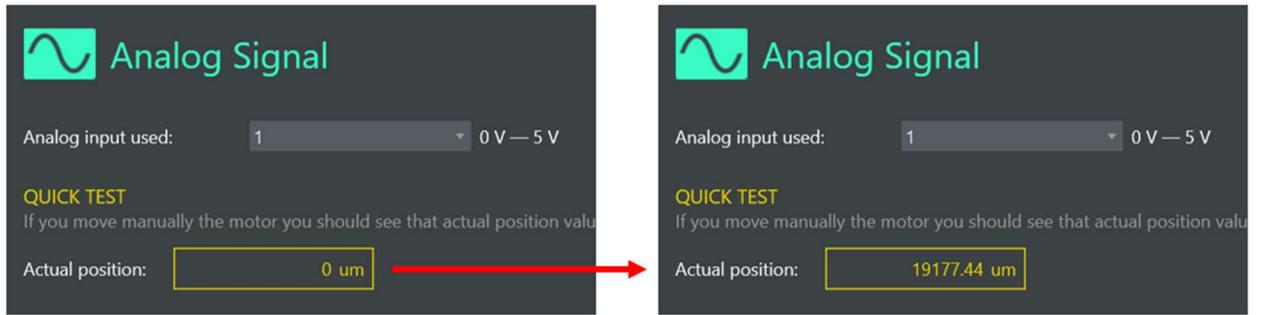

Fig. 26: Testing the actual position (i.e., analog signal) of the VCA.
- 3) In the “Analog Signal” window under “Actuator,” test that the actual position responds to manually moving the movable platform (shown in **Fig. 26** below). Expected response: the position should increase when raising the platform and decrease when lowering the platform.